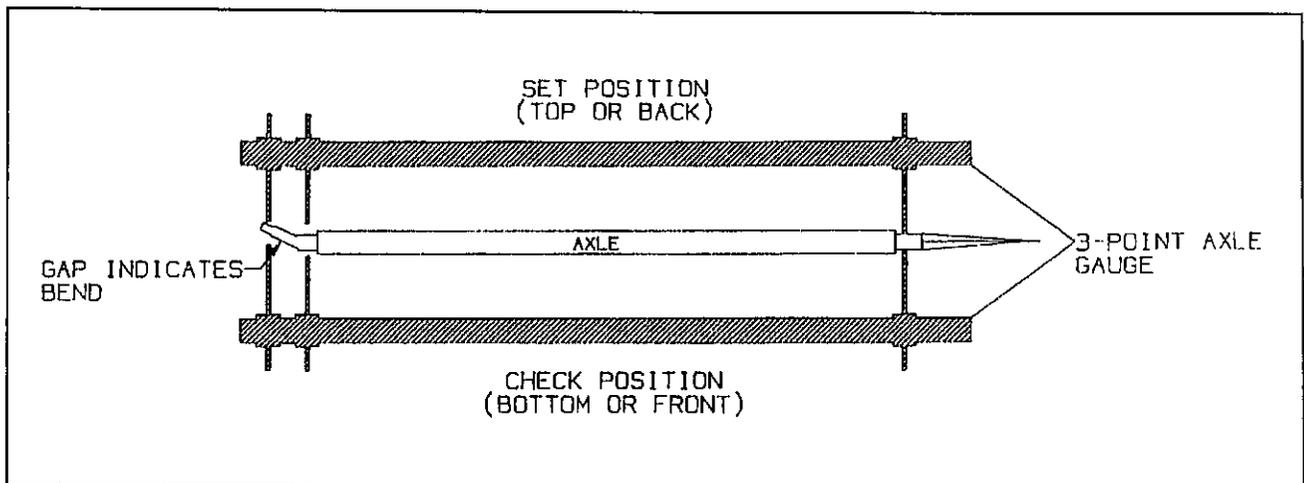

Figure 4-3 Checking Axle for Bend
- b. Place a 3-point axle gauge against the front side of the axle, and adjust each axle gauge point to the axle. (Double point end against the inner and outer wheel bearing surfaces of the spindle being checked and the other point on the inner bearing surface on the other spindle.) (See Figure 4-3).
- c. Move the axle gauge and place against the back side of the axle. If either of the points of double point end fails to touch the axle surface, a bent spindle is evident. A point gap of .015" or more is considered excessive tire "toe" and the axle must be replaced (See Figure 4-3).